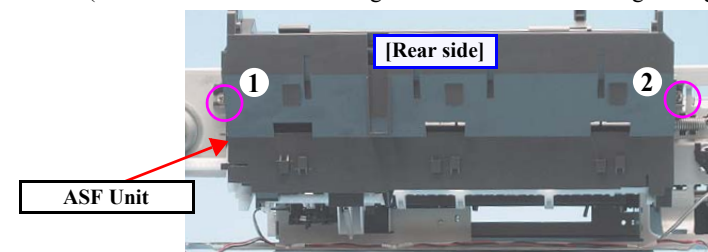

Figure 4-141. Removing the Screws (ASF Unit)
- Tighten the screws in the order given in Fig.4-141.